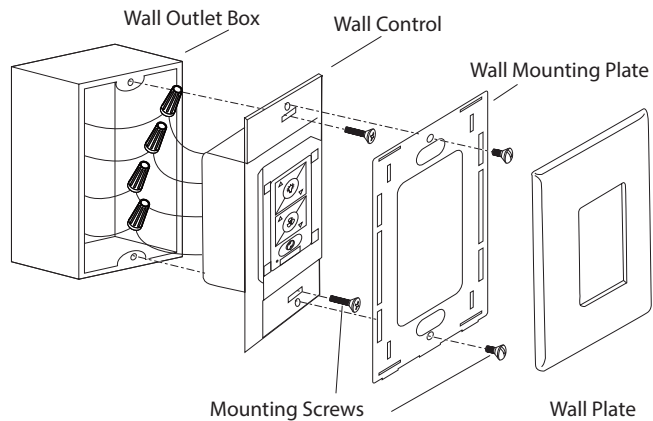

FIG.13
1. Carefully tuck the wire connections inside the outlet box. Secure the wall control with the 2 wall control screws provided (**FIG.13**).